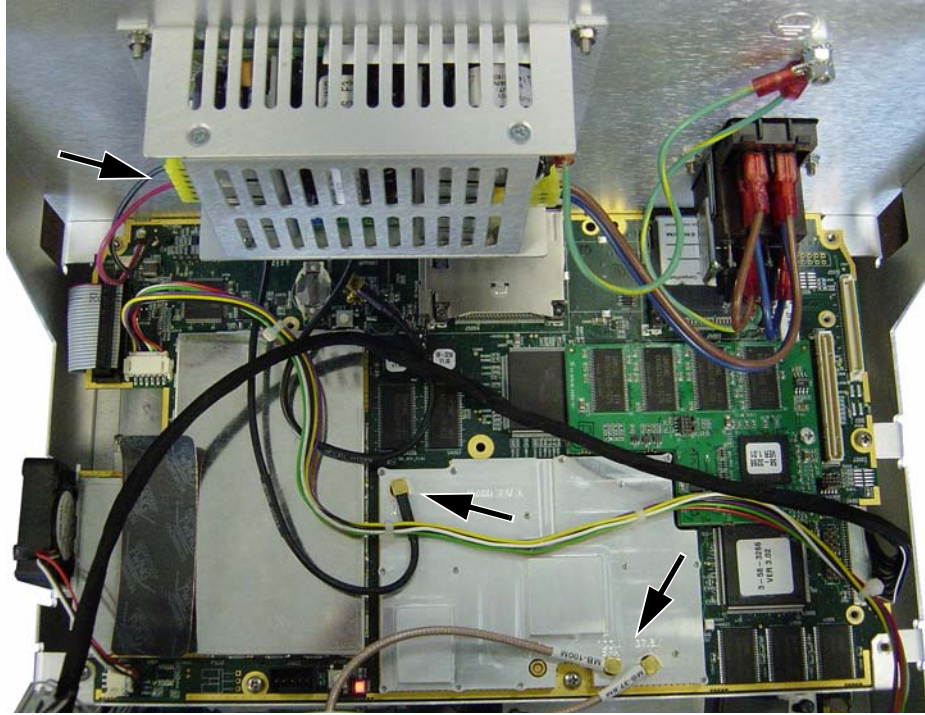

Figure 5-40. MCX Connectors to Main PCB
- h. Unplug the connector from the power supply to the Main PCB. Refer to Figure 5-40.